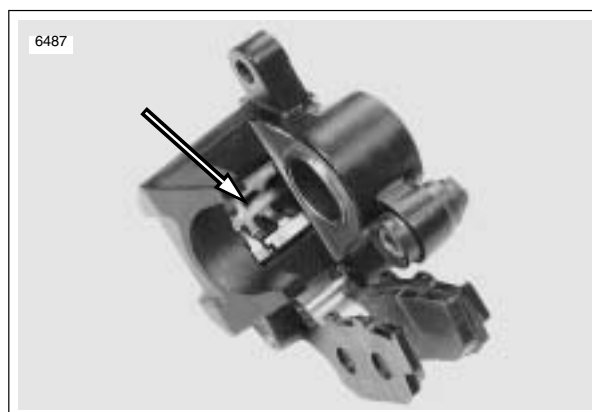

Figure 1-18. Rear Brake Pad Spring
2. See Figure 1-18. Check that pad spring is present. Should pad spring become dislodged, install with widest area of spring towards piston side of caliper.